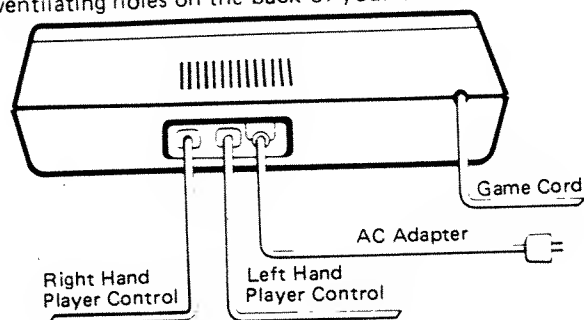

Figure 2
2. Plug the Left and Right Player Hand Control Cables into the rear of the console (see Figure 2).